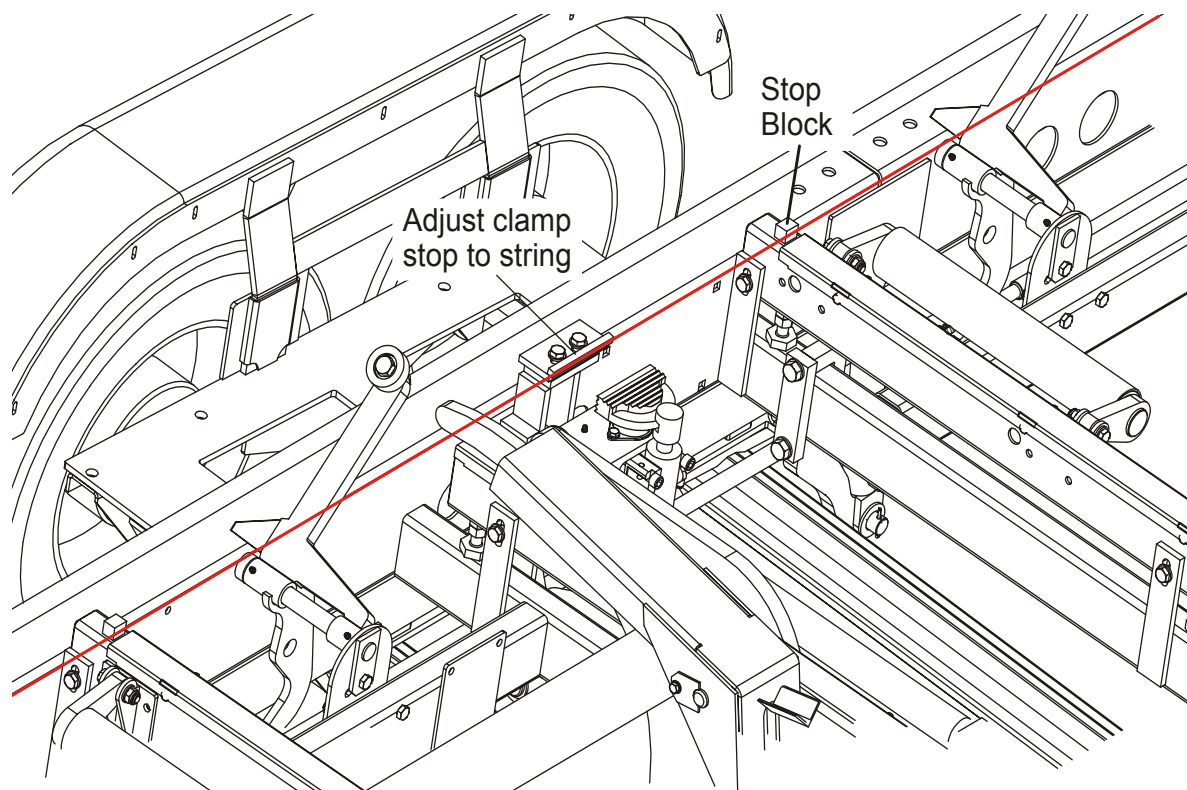

FIG. 7-42
**See Figure 7-42.** Loosen the clamp stop bolts and adjust the clamp stop until it touches the string.